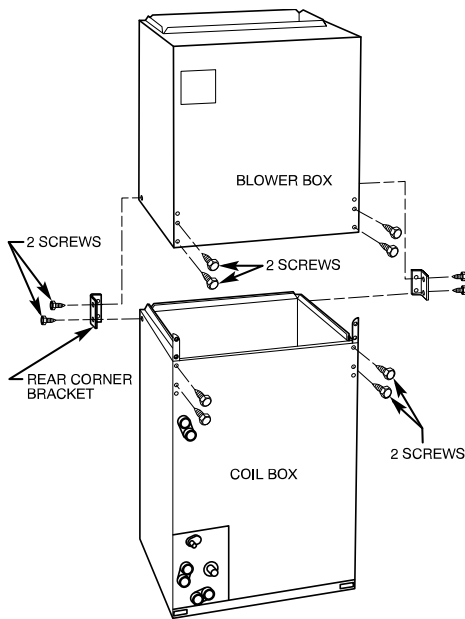

Fig. 2 – Removal of Brackets on Modular Unit
Modular units (3½, 4, and 5 ton) can be disassembled and components moved separately to the installation area for reassembly. This process accommodates small scuttle holes and limiting entrances to installation sites (Fig. 2).
- b. If fan coil is against wall, secure fan coil to wall stud using 1/8" (3 mm) thick right-angle brackets. Attach brackets to fan coil using no. 10 self-tapping screws and to wall stud using 5/16" lag screws (Fig. 2).